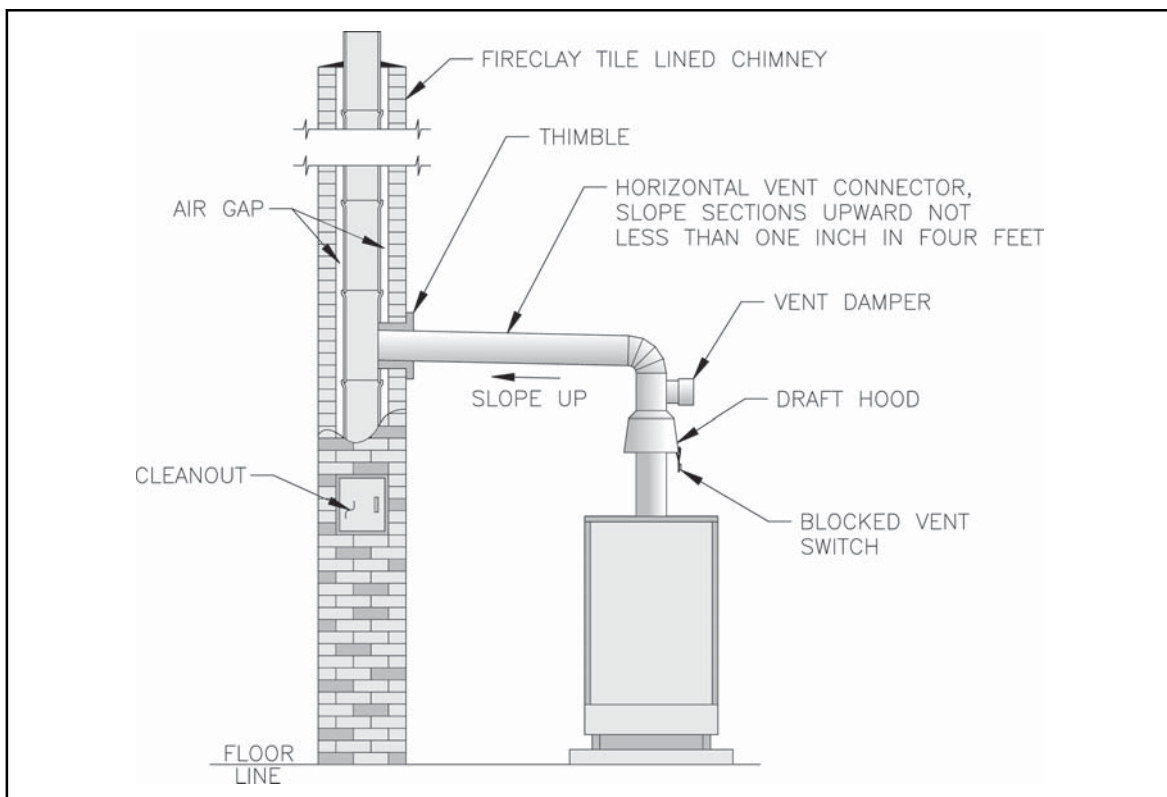

Figure 29: Typical Vent System
- F. Install Vent Connector** from draft hood or vent damper to chimney. See Figure 29. For modular or multiple boiler installations, review "*Multiple-Modular Manual for Series 8B Gas Boilers*", P/N 8141615.